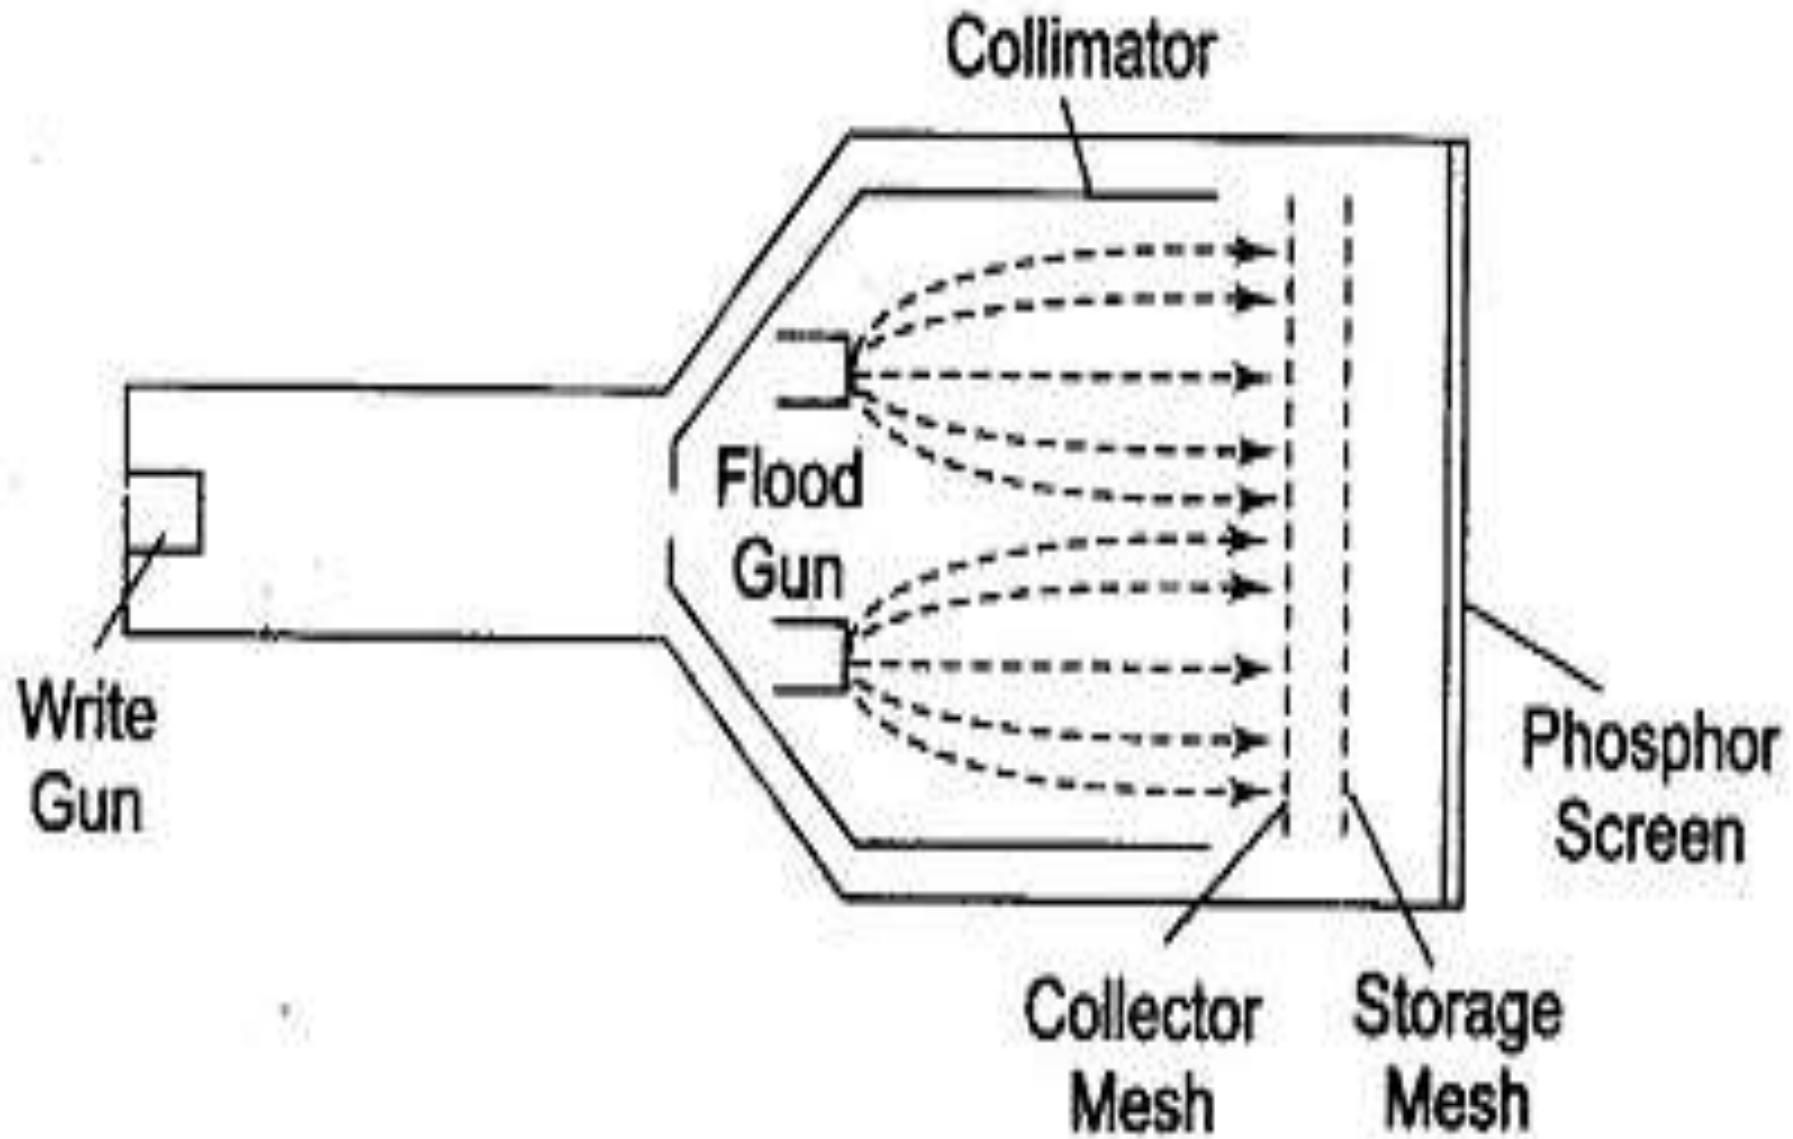

Fig. 7.27 Storage Mesh CRT
- ▶ The electron paths are adjusted by the collimator electrode, which constitutes a low voltage electrostatic lens system (to focus the electron beam), as shown in Fig. 7.27.